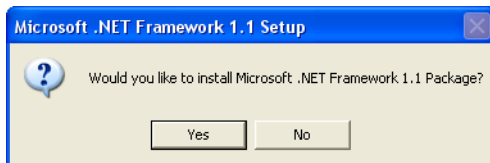
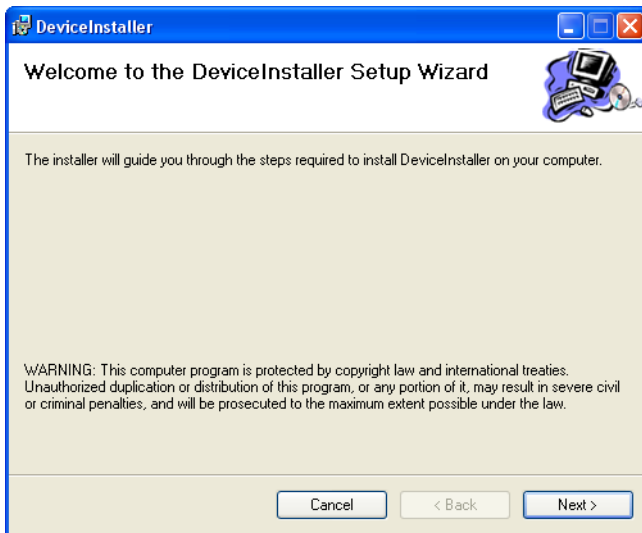
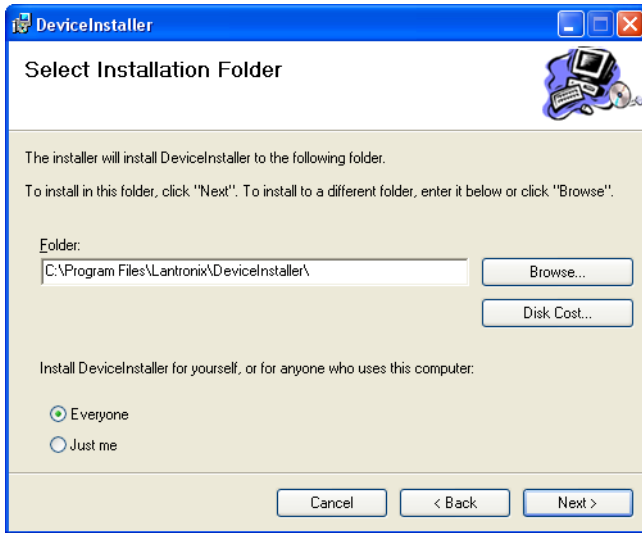

Figure 6: Microsoft .NET Installation Confirmation
Figure 12: DeviceInstaller Setup Wizard
Figure 14: Select Destination Folder
3. Double-click on the  link. A confirmation window appears asking if the Microsoft .NET Framework package should be installed (see Figure 6).
3. Double-click on the **Setup.Exe** link. (see Figure 6). The Welcome to the DeviceInstaller Setup Wizard window appears (see Figure 12 on page 11).
5. Continuing on from Figure 12 for a new installation, click on the button to begin the installation process. The Select Destination Location window appears (see Figure 14 on page 12).